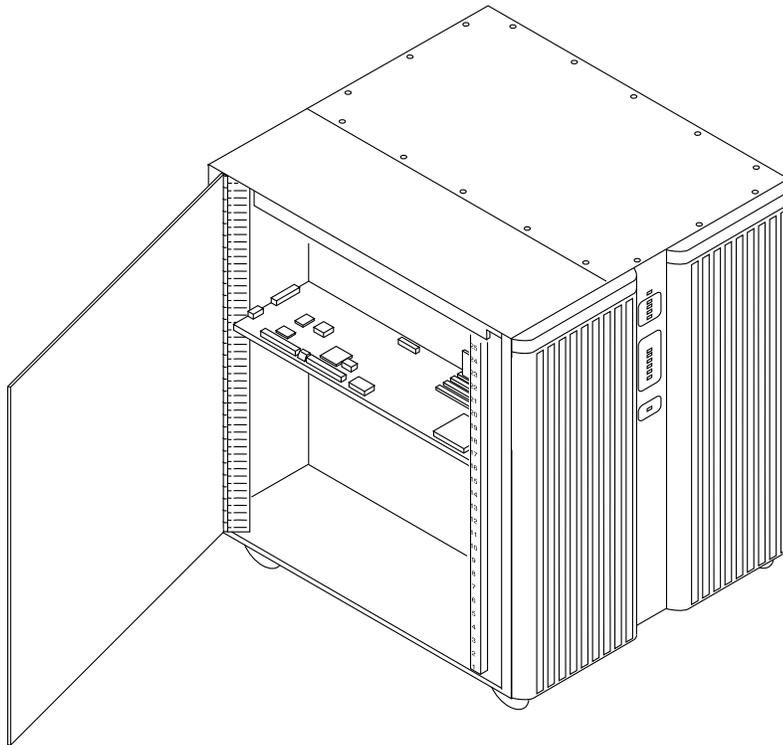

Figure 2-5. MAP/100 – Card Cage Access Door
2. Loosen the eight ¼-turn fasteners around the Card Cage access door and open the door (Figure 2-5).